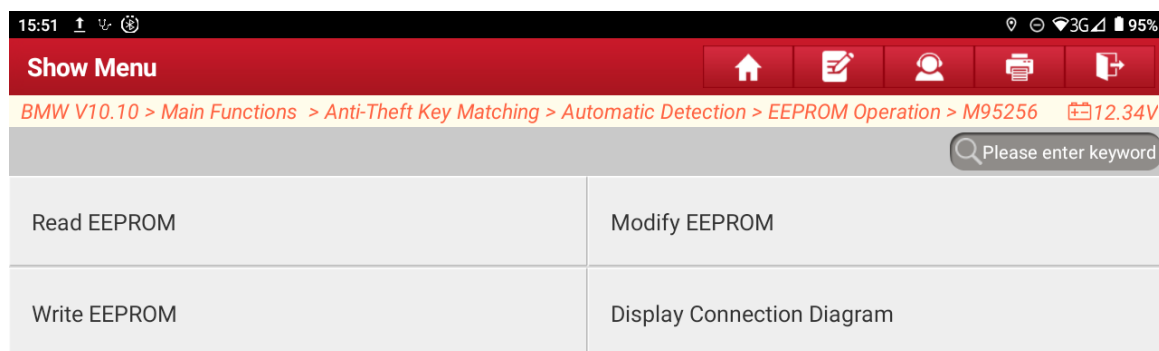

Figure 29
29. Remove the EEPROM chip from the board and install it into the chip clamp, select **【Write EEPROM】**, and write the EEPROM file of the original vehicle into the EEPROM chip, as shown in Figure 29.